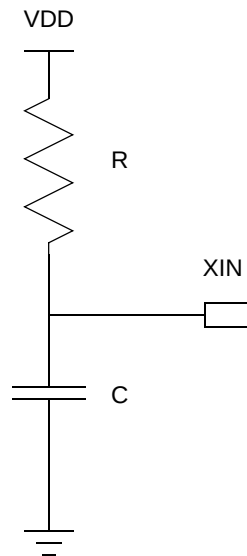

**Figure 63. Connecting the On-Chip Oscillator to an External RC Network**
Figure 63 displays the recommended configuration for connection with an external resistor-capacitor (RC) network.